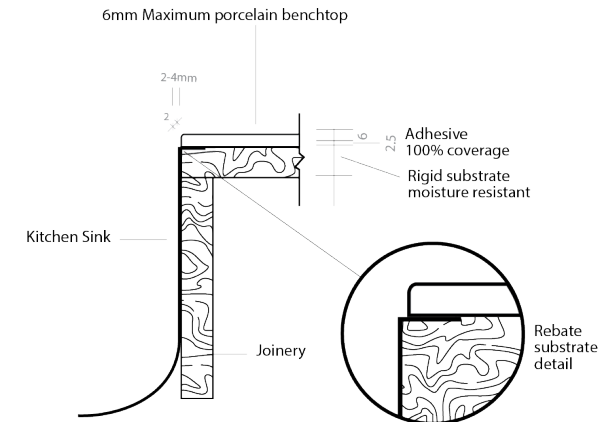

FIG: 1 REBATED UNDER MOUNTED SINK DETAIL
1. Mark the portion to be removed at the ends of the slab (see Figure 1).